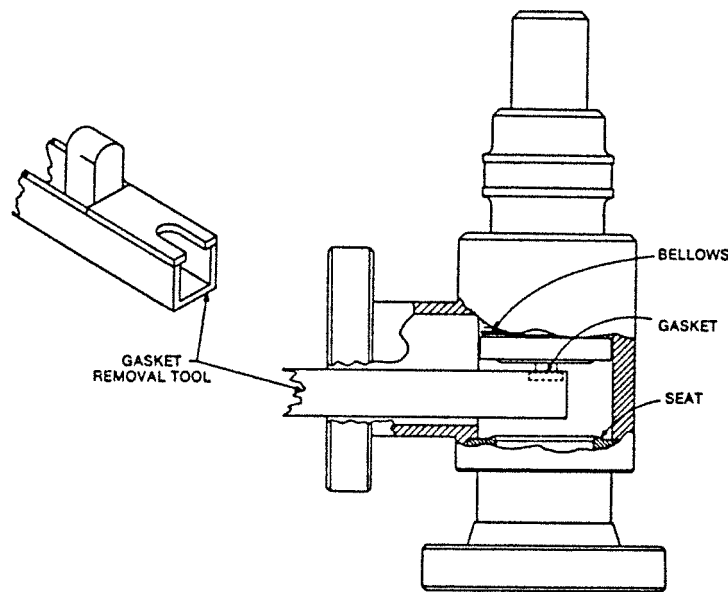

Figure 1-6 Gasket Replacement, 35-mm (1½”) and 63 mm (2½”) Valves
1. Disconnect the side port flange to allow insertion of the gasket removal tool (Figure 1-6).